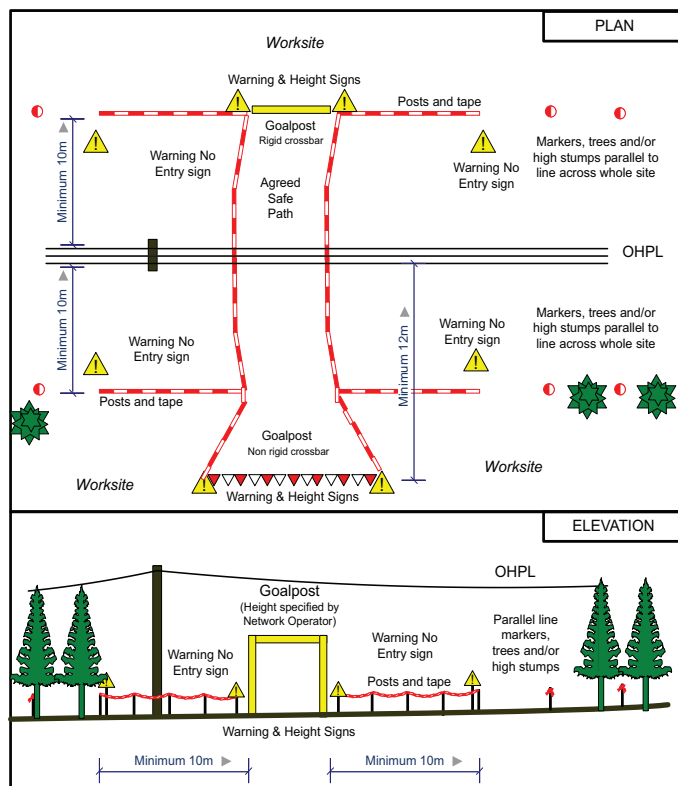

Figure 1: Site layout
- ❑ **27** Within the worksite, the FWM will clearly identify the safe clearance for driving alongside OHPLs and underground cables by providing suitable barriers. In many cases, marked trees or high stumps will form the basis of a suitable barrier, as long as there is no opening which would allow access for vehicles. The absolute safe minimum driving distance from the barriers to the OHPL is 10 m. The Network Operator may advise distances greater than 10 m depending on the voltage of the line and the nature of the terrain. See Figure 1.